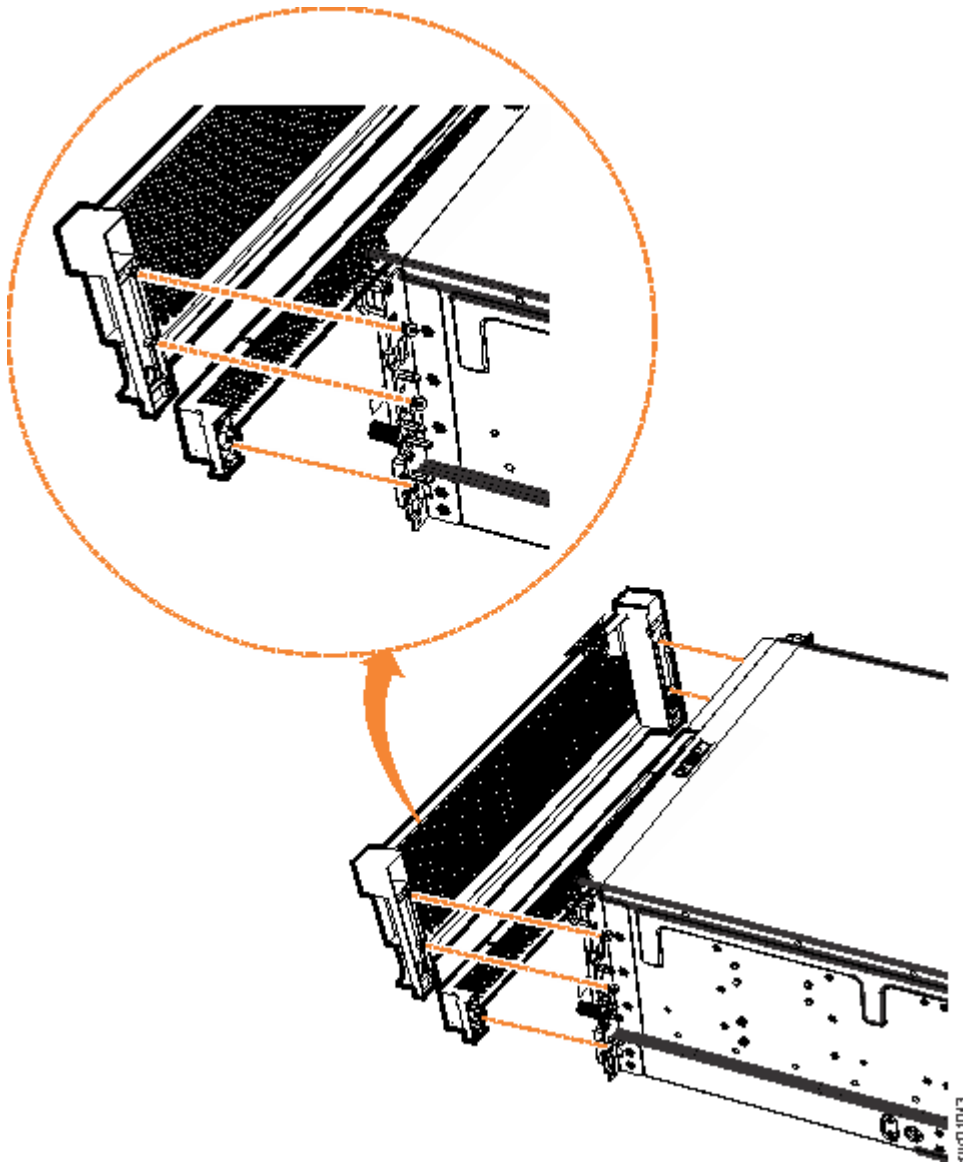

Figure 127. Remove fascia components from the expansion enclosure
2. Remove the front fascia by removing the two screws that attach the fascia to the flange on each side of the chassis, as shown in Figure 127 on page 165.
3. Gently pull on each side of the PSU fascia to remove it from the chassis, as shown in Figure 127 on page 165. The PSU fascia disengages from the slot and pin that connect it to each side of the chassis. You must remove the bottom fascia to access and service either PSU. However, as Figure 128 on page 166 shows, you do not have to remove the front fascia.